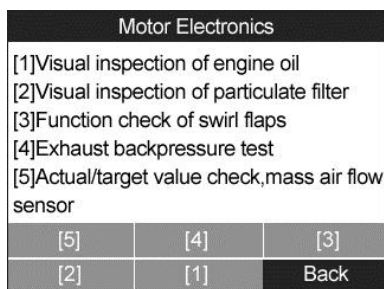

Figure 13.29
- a) From the particle filter test menu (Figure 13.29) use the **LEFT/RIGHT** scroll button to select **【1】** and press the **OK** button.
- a) From the particle filter test menu (Figure 13.29) use the **LEFT/RIGHT** scroll button to select **【2】** and press the **OK** button.
- a) From the particle filter test menu (Figure 13.29) use the **LEFT/RIGHT** scroll button to select **【3】** and press the **OK** button.
- a) From the particle filter test menu (Figure 13.29) use the **LEFT/RIGHT** scroll button to select **【4】** and press the **OK** button.
- a) From the particle filter test menu (Figure 13.29) use the **LEFT/RIGHT** scroll button to select **【5】** and press the **OK** button.